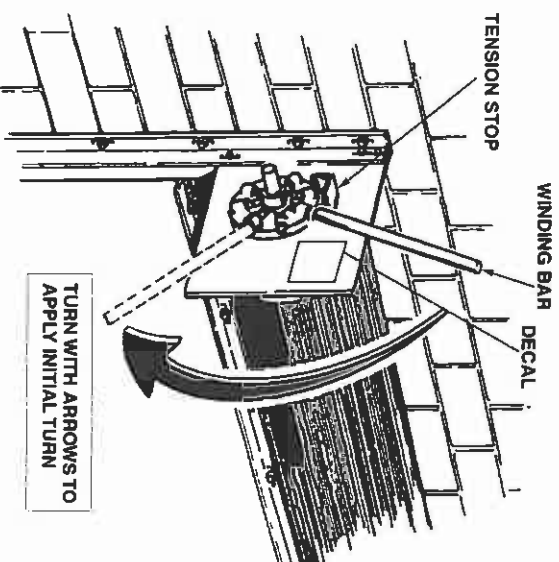

Fig 20
- Wind Tension Wheel in the direction shown in Figure 20.
- After proper tension is applied, install the tension pin into the tension wheel adjacent to the tension stop. Use two winding bars to allow the tension wheel to rotate until the pin is against the tension stop. See Fig 20.